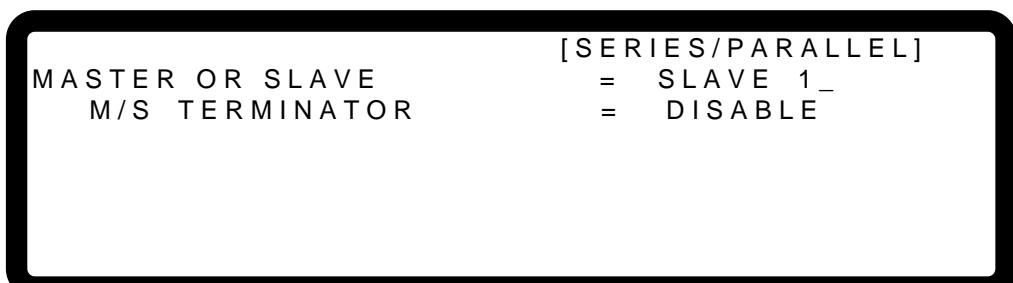

Figure 3-38
3. Use the numeric keys (**1** - **9**) or the “Rotary” (**○**) knob to set SLAVE1-SLAVE9 as shown in Figure 3-38.
5. Use the numeric keys (**1** - **0**) or the “Rotary” () knob to ENABLE or DISABLE the TERMINATOR as shown in Figure 3-38.